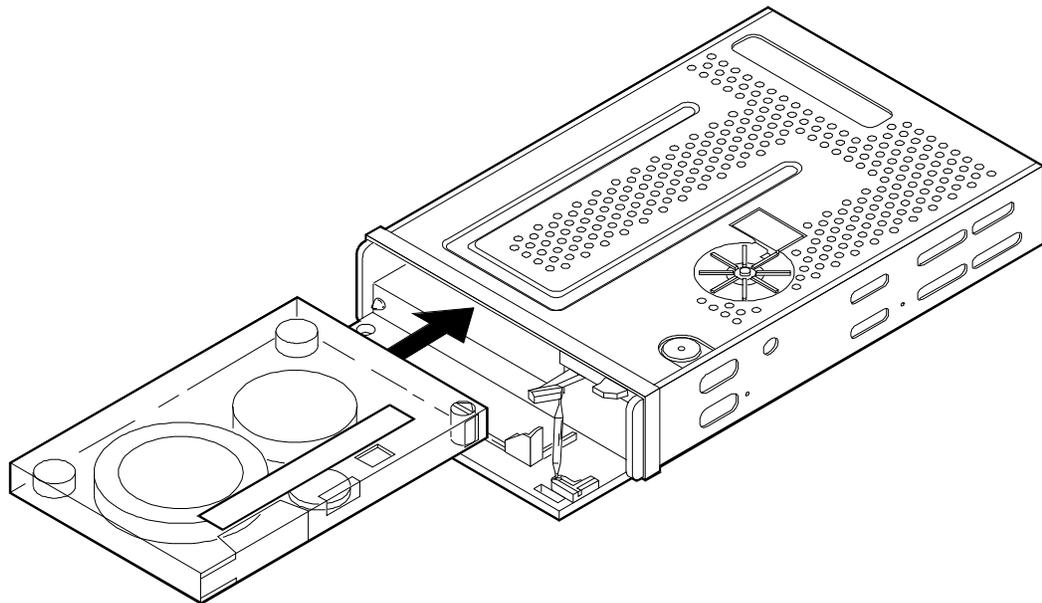

Figure 3-4. Tape Insertion with a 2-Gbyte Tape Drive
- b. Insert the tape (Figure 3-4).